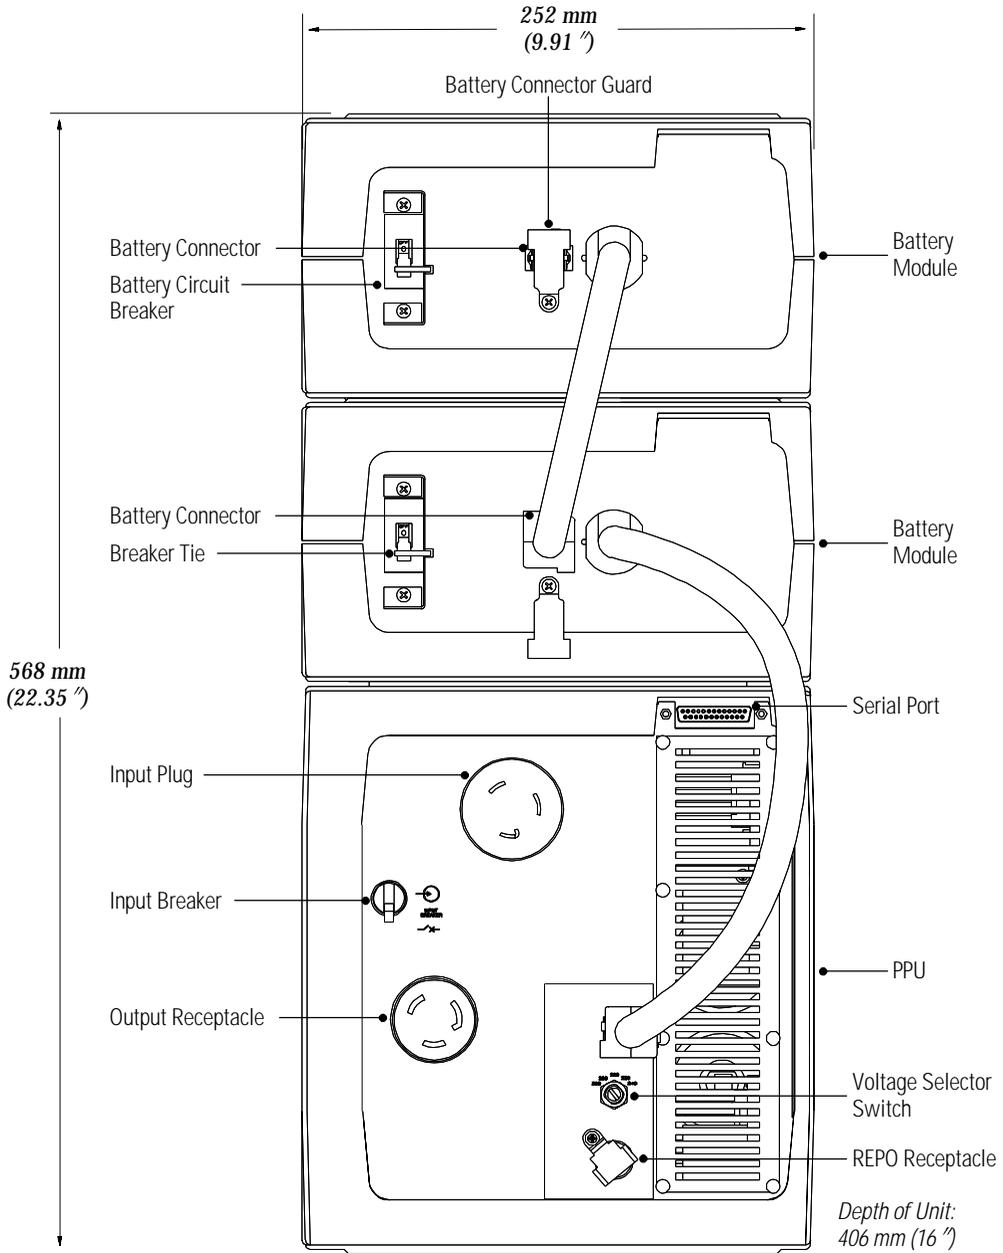
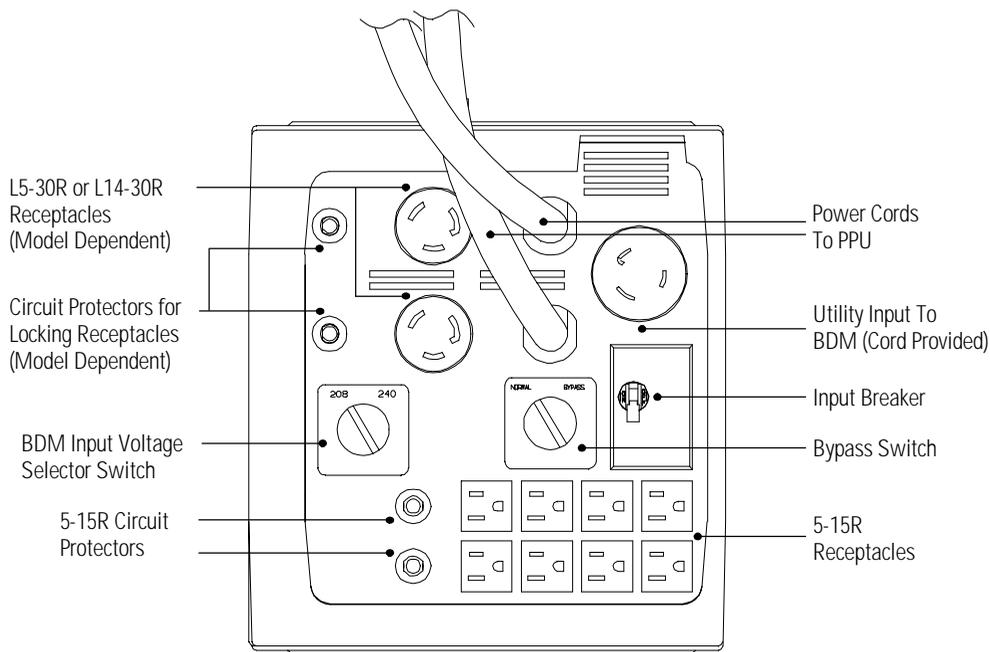

Figure 4. UPS with Battery Modules (Rear View)
Figure 5. BDM Plug/Receptacle Unit Rear Panel Connections
Whenever the units are not energized, verify the circuit breaker on all battery modules is returned to the OFF (O) position (see Figure 4 on page 28).
7. Verify the Bypass switch on the BDM rear panel is in the NORMAL position (see Figure 5 on page 29).
8. Verify the circuit breaker on all battery modules is in the OFF (O) position (see Figure 4).
NOTE All battery cords are the same length. See Figure 5 and Figure 7 on for BDM rear panels.
10. Turn the BDM input voltage selector switch to 208 or 240 according to the UPS input voltage (see Figure 5 or Figure 7).
12. Plug the input and output power cords of the BDM into the input and output power connectors located on the PPU rear panel (see Figure 4 and Figure 5). Figure 19 on page 47 shows the BDM and PPU rear panel connections.
3. Pivot the REPO receptacle guard out of the way, plug the REPO plug/receptacle PPU connector into the REPO receptacle on the PPU rear panel and twist the connector in place (see Figure 4 on page 28).
1. Verify the BDM input breaker is in the OFF (O) position (see Figure 5 on page 29).
4. Verify that the Bypass switch on the BDM rear panel is in the NORMAL position (see Figure 5 on page 29).
8. Switch the circuit breaker to the ON (|) position (see Figure 4 on page 28) on each battery module connected to the PPU.
11. Switch the BDM input breaker to the ON (|) position (see Figure 5 on page 29).